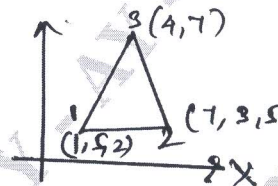

Fig Q6(b)
b. Determine the Jacobian of the transformation J for the triangular element shown in Fig Q6(b)